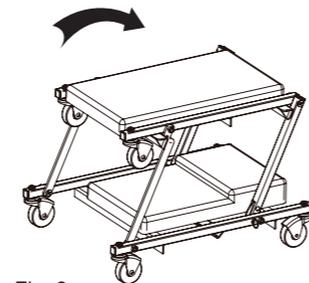

Fig. 3
1. Unlock the spring loaded Lock Pin by pulling out until disengaged, at the same time rotate Middle Frame upward and back towards the Rear Frame section until the Lock Pin can engage the Creeper Seat Locking Sleeve (Fig. 3). Ensure Lock Pin is fully engaged.